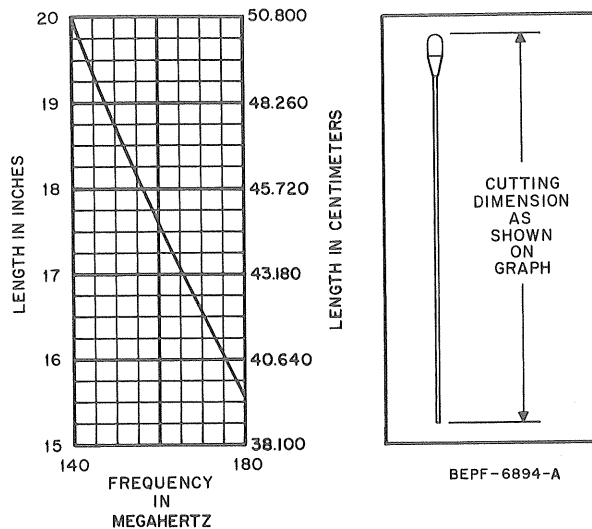

Figure 5. Antenna Cutting Chart
- e. Cut the antenna to length in accordance with the antenna cutting chart in Figure 5. for the specific frequency of operation.